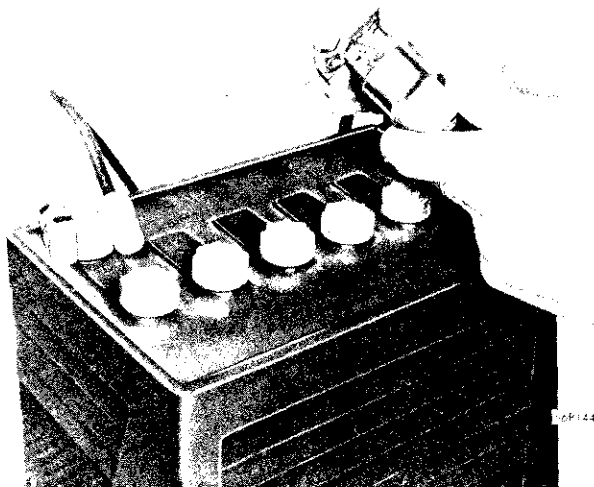

Fig. 1—Cleaning the Inside of the Cable Clamp
b. The battery posts and terminals should be cleaned with a terminal cleaning tool, as shown in Figures 1 and 2 and the complete battery should be washed with warm water and baking soda and wiped clean with a damp cloth.